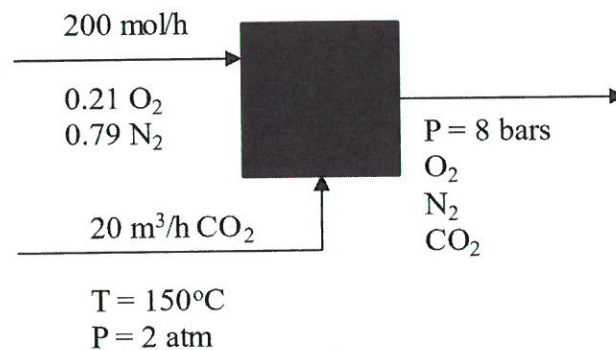

Figure 3(c)/Rajah 3(c)
- (c) A stream of air (21 mole% and the rest is N_2) flows at a rate of 200 mol/h and it is mixed with a stream of CO_2 at a rate of $20 \text{ m}^3/\text{h}$ at 150°C and 2 atm. Then, the mixture gases are stored in the container at absolute pressure of 8 bars. By assuming the ideal gas system and use gas constant, $R = 0.08206 \text{ atm.L/mol.K}$. The block flow diagram as shown in Figure 3(c).